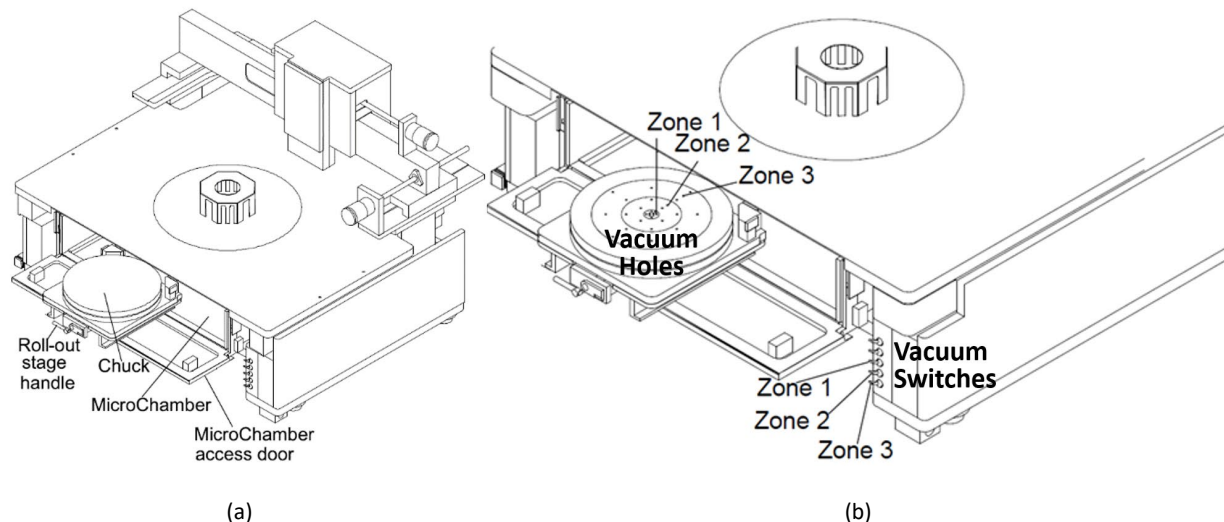

Fig. 2.2. (a) Access and (b) vacuum control of the wafer chuck.
- 2.7 Reach into the microchamber and rotate the roll-out stage handle [Fig. 2.2(a)] counterclockwise to unlock the stage. Pull the stage out until it locks outside the microchamber. **Never pull out the stage with the z-lever down! Never touch the chuck surface with bare hands!**
- 2.10 Depending on the sample size, configure the switches on the lower-right of the probe station [Fig. 2.2(b)] to apply vacuum to the holes in different zones of the chuck. For small samples (< 3" dia.), switch on (flip right) Zone 1 (13 mm dia.) only. For $\geq 3"$ samples, switch on both Zone 1 and Zone 2 (75 mm dia.). For $\geq 6"$ samples, switch on Zone 1, Zone 2, and Zone 3 (150 mm dia.). Leave the top switch off for the auxiliary chuck.